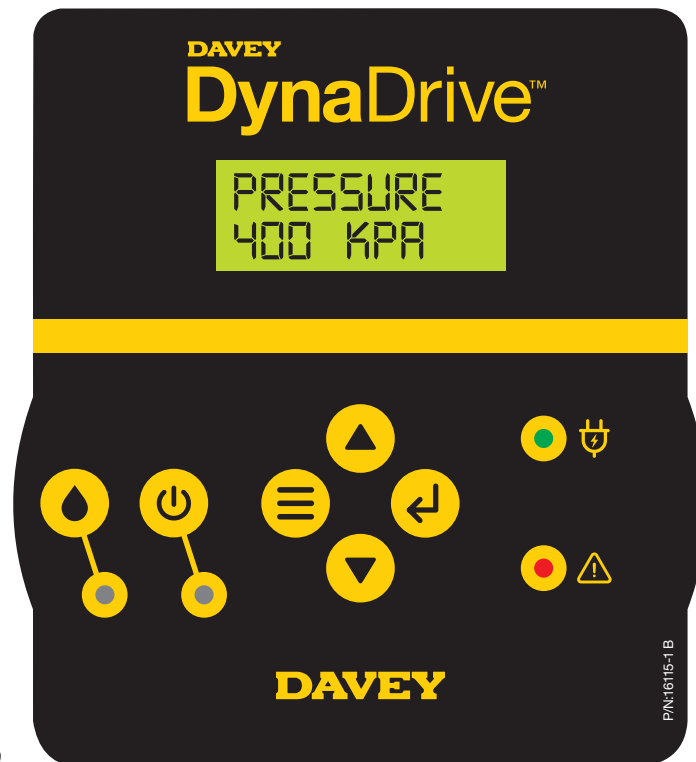

Figure 6.10
- Once the motor has slowed to a stop, press and hold the  **Menu button** for ~ 5 seconds. The display will change to show your current set pressure, see figure 6.10;